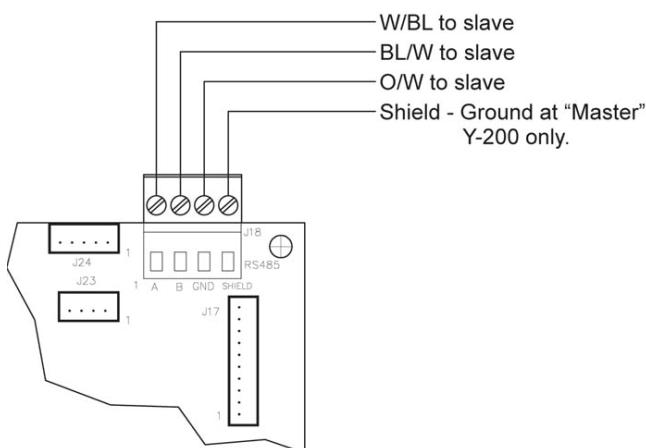

Fig. 4: Master RS485 Communications Cable Schematic
- Port J18 (see Fig. 4) is used for the interconnection between the master controller and slave units.